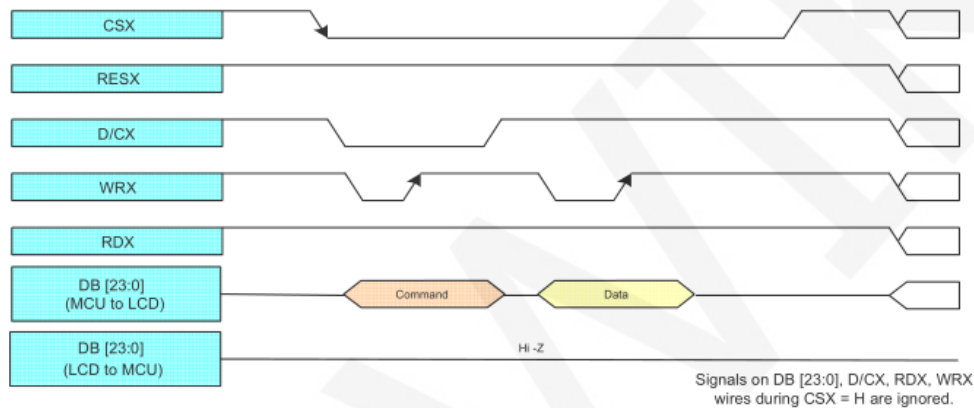

**Figure 1: DBI Type B Write Cycle**
1. The pins labeled NC in figure 1 are not used;